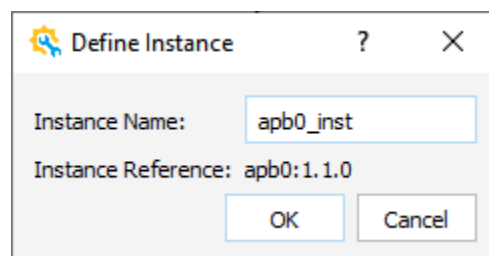

Figure 2.69. Define Instance Dialog Box
2. Right-click on the component you want to restore, and choose **Instantiate**. The Define Instance dialog box (Figure 2.69) open.